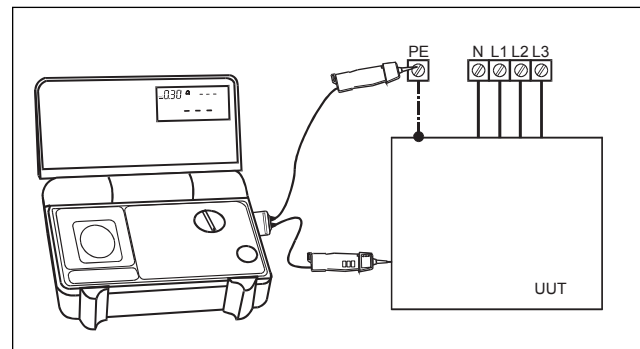

Fig.7.6
- Connect test probes of COMMANDER 2 (with measurement accessories, if required) to UUT, as shown in figure 7.6: